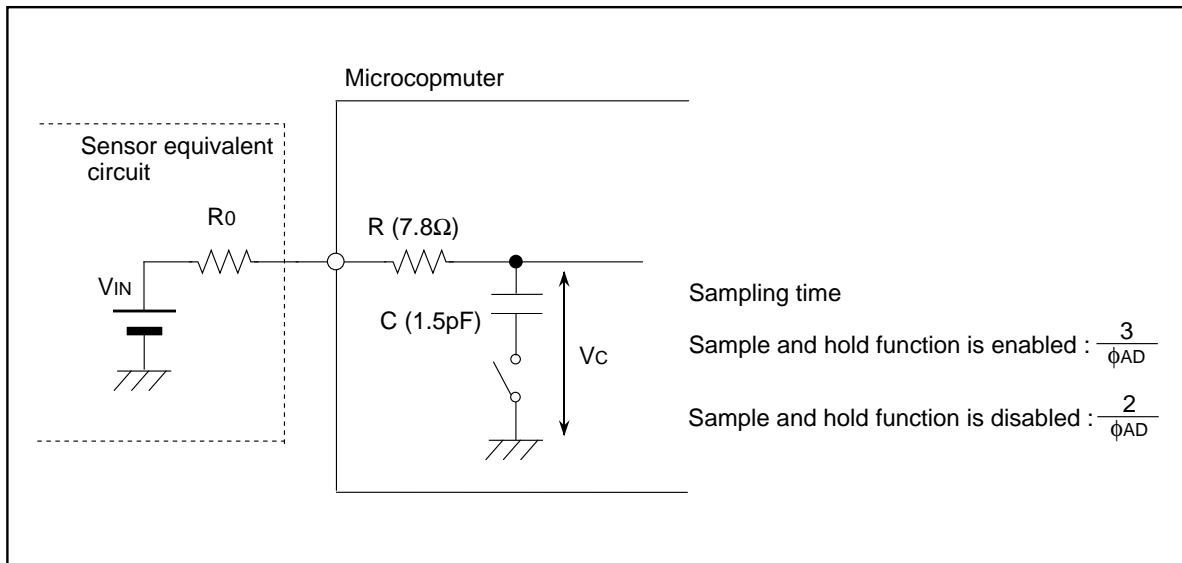

Figure 18.8 Analog Input Pin and External Sensor Equivalent Circuit
For perfect A/D converter performance, complete internal capacitor (C) charging, shown in Figure 18.8, for the specified period (T) as sampling time. Output Impedance of the sensor equivalent circuit (R0) is determined by the following equations:
Figure 18.8 shows analog input pin and external sensor equivalent circuit. The impedance (R₀) can be obtained if the voltage between pins (V_C) changes from 0 to V_{IN} - (0.1/1024) V_{IN} in the time (T), when the difference between V_{IN} and V_C becomes 0.1LSB.